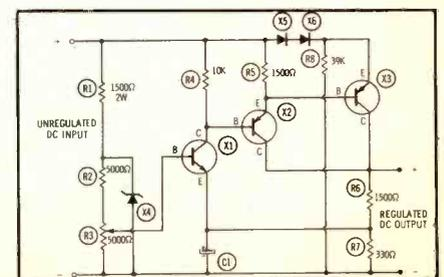

Fig. 10. Some types are more complex.
A more elaborate series regulator is shown in Fig. 10. This circuit, with variations, is used in several popular regulated supplies. The R1-R2-R3 chain, with zener diode X4, develops reference voltage for the base of NPN transistor X1, which is also connected across the input voltage in series with R4 and R7. The voltage developed at the collector (C) of X1 affects conduction of PNP transistor X2, an emitter-follower DC amplifier. The voltage at C of X2 controls internal resistance of X3, the PNP series regulator.
In more sophisticated units, transistor stages often amplify the RF signal before rectification, and some use DC amplifiers to raise the level of detected DC before it is applied to the meter movement. In the former, ordinary RF amplifiers are used; in the latter, ordinary DC amplifiers. We'll discuss RF amplifiers in other instruments shortly, and DC amplifiers are similar to X1 or X2 in Fig. 10.